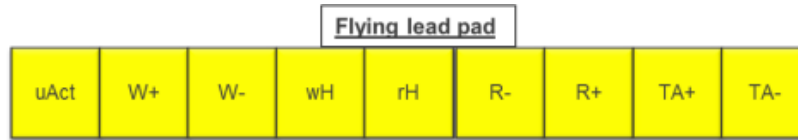

Figure 2.6 Test Pads on Flying Lead for Iris 9-Pad Suspension
Referring to Figure 2.6, as one of production failure modes, any two adjacent pads on flying lead can be potentially shorted together. This is required to be tested by the HGA Static Tester.
1. The pad assignments as shown in the Fig. 2.6 are different from product to product. Therefore, the adjacent pairs for short circuit detection are different. For example as shown in Fig. 2.6 above, short detection for (uAct, W+) pair is required and the detection for (W+, TA+) pair is not required. For a different product, the short detection can be vice versa.